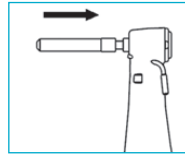

Fig. 6
- Push the needle / drill inward. If the needle / drill are tightly locked, there will be a "click" sound. (Figure 6)